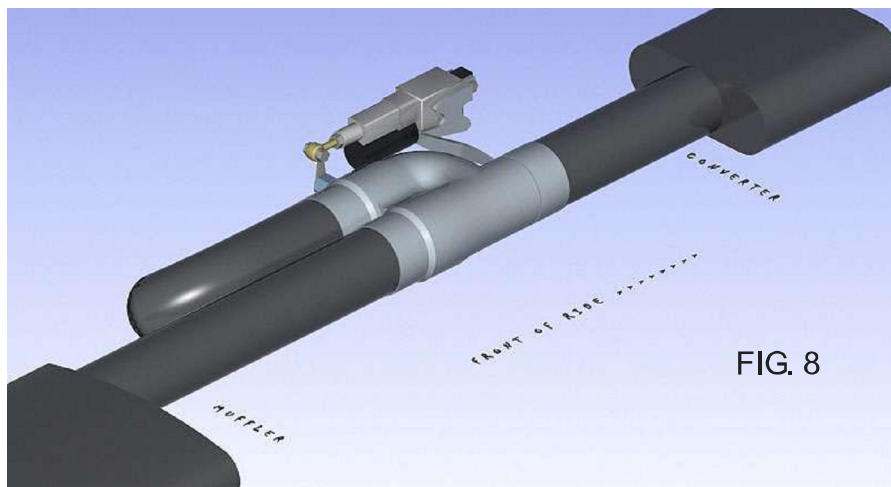

FIG. 8
**STEP 6-** YOU ARE NOW READY TO INSTALL PIPE FOR DIVERTED EXHAUST. (SEE FIG. 8) THIS PIPE MAY OR MAY NOT INCLUDE A PERFORMANCE MUFFLER. **\*RACE OR OFF ROAD ONLY IF MUFFLER IS NOT USED\***